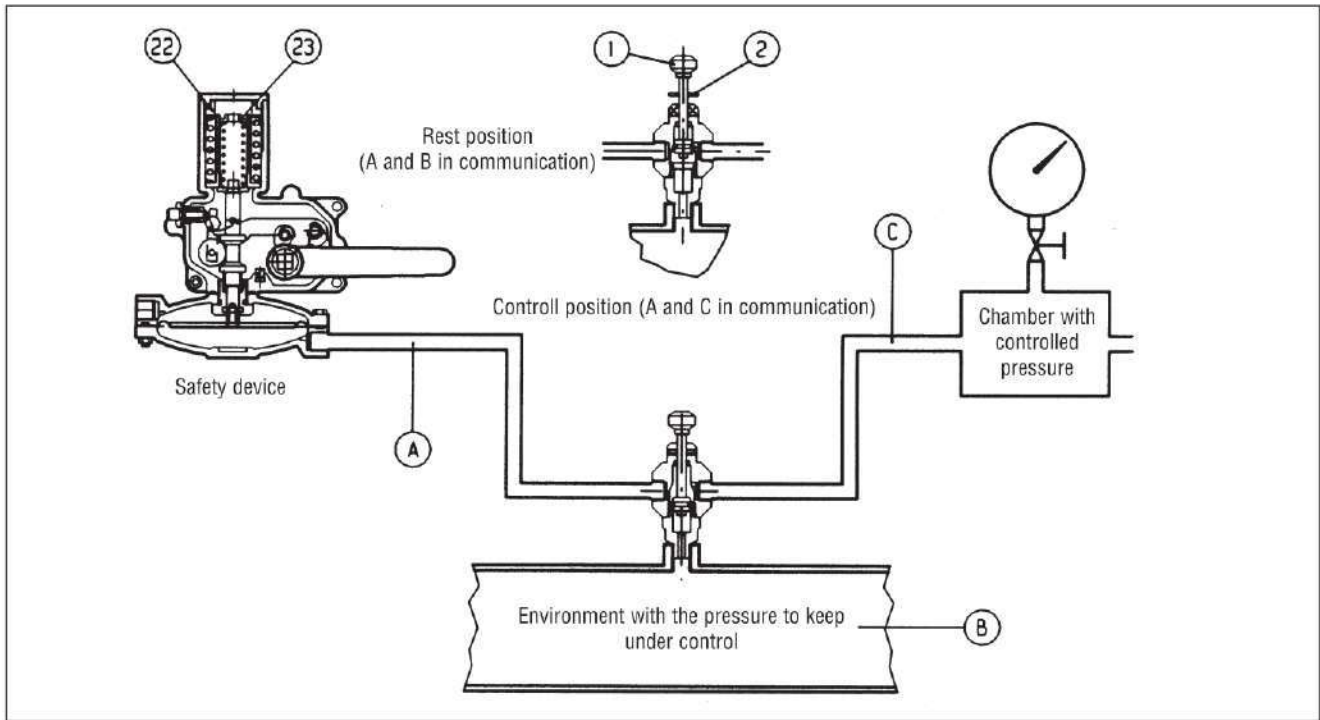

Fig. 17
A) For slam-shuts connected to the downstream piping by a three-way deviator push valve 11, proceed as follows (Fig. 17):
A) For slam-shuts connected to the downstream piping by a three-way deviator push valve 11, proceed as follows (fig. 17):